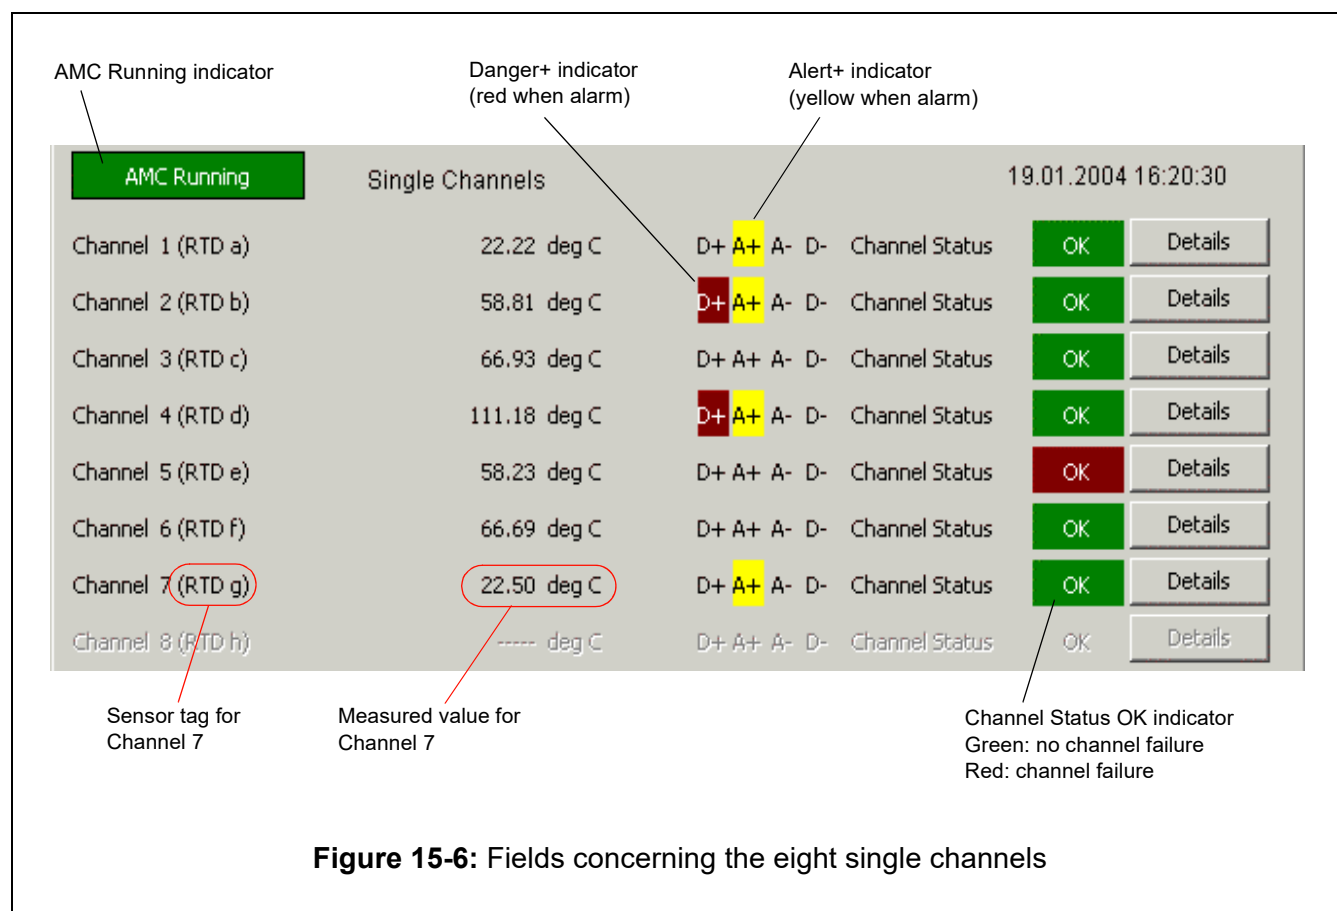

Figure 15-6: Fields concerning the eight single channels
- 1- Fields concerning the eight single channels (see Figure 15-6)
The AMC Outputs window shows measured values and alarm status for the eight single channels (see Figure 15-6).
A line appears dimmed (greyed out) if the **Channel Used** field on the Input Configuration tab (see Figure 12-4) is set to Not Used (this is the case for Channel 8 in Figure 15-6).